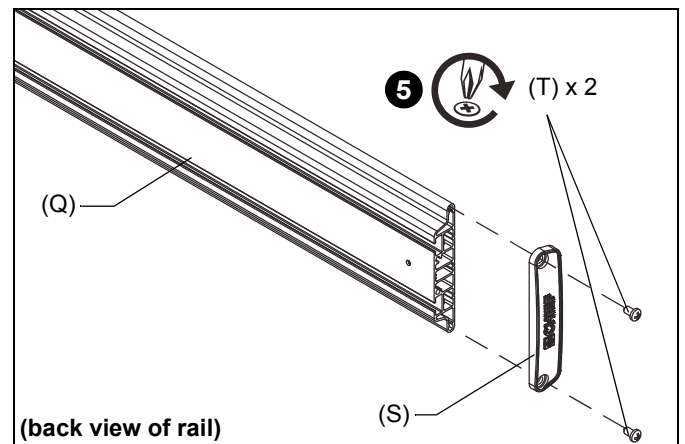

Figure 13
5. Attach one remaining end cap (S) with two 1/4-20 x 1/2" Phillips head screws (T) to end of mounting rail (Q). (See Figure 13)